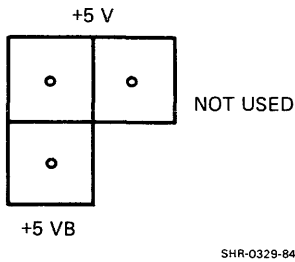

Figure 2-9 Battery Backup
**2.2.8 Battery Backup (Figure 2-9)**